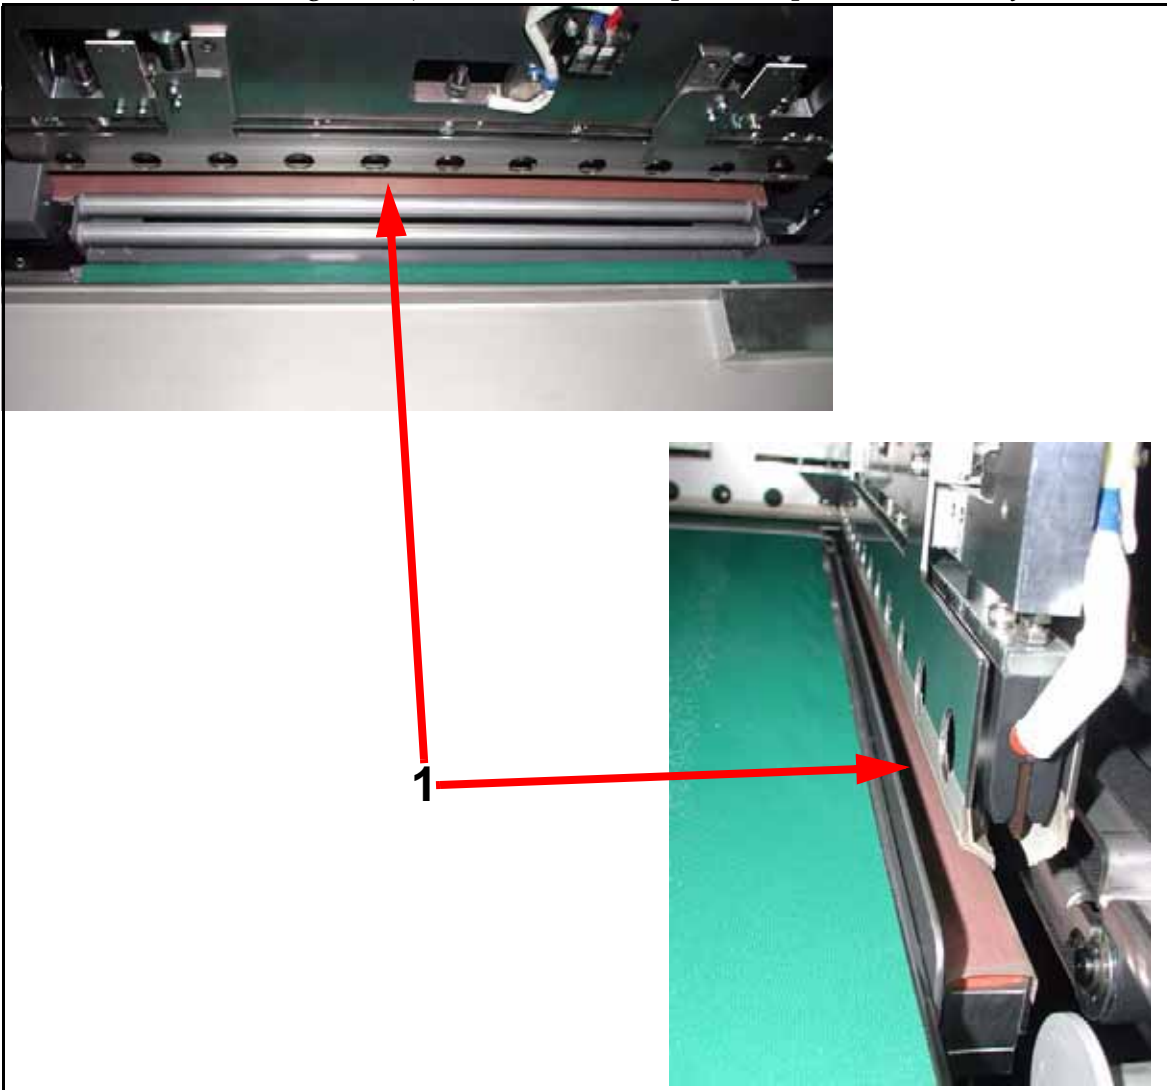

Figure 6-8. Seal Pad and Tape Inspection
- 1 Carefully inspect the condition of the seal pads and Teflon tape (1 in Figure 6-8) of the seal bars. Repair or replace as necessary.